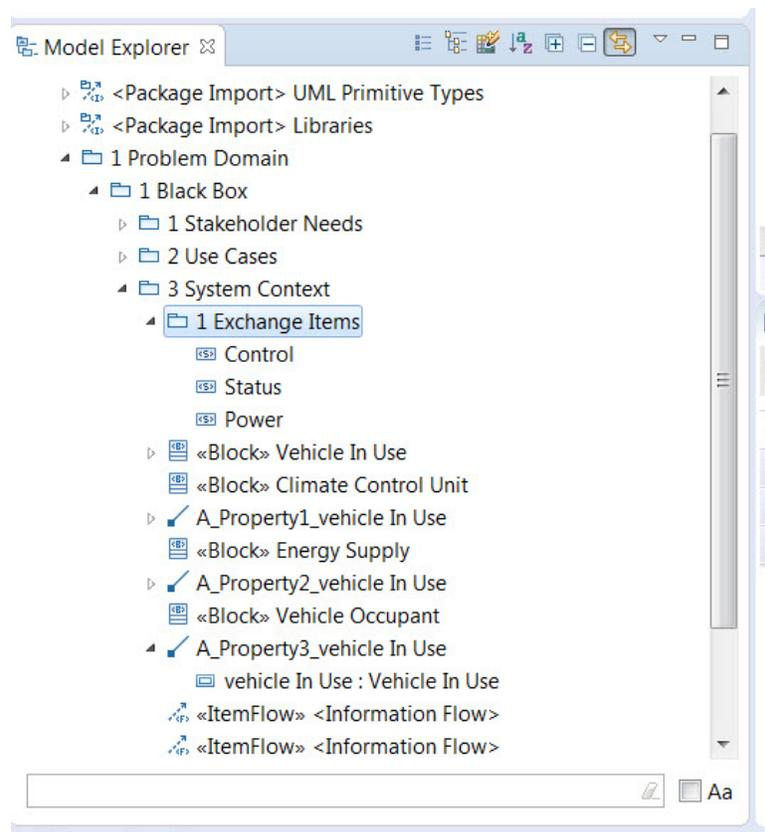

Figure 63: Signals Created
3. Follow the same procedure to create another signal called *Status* (figure 63) and another called *Power*.